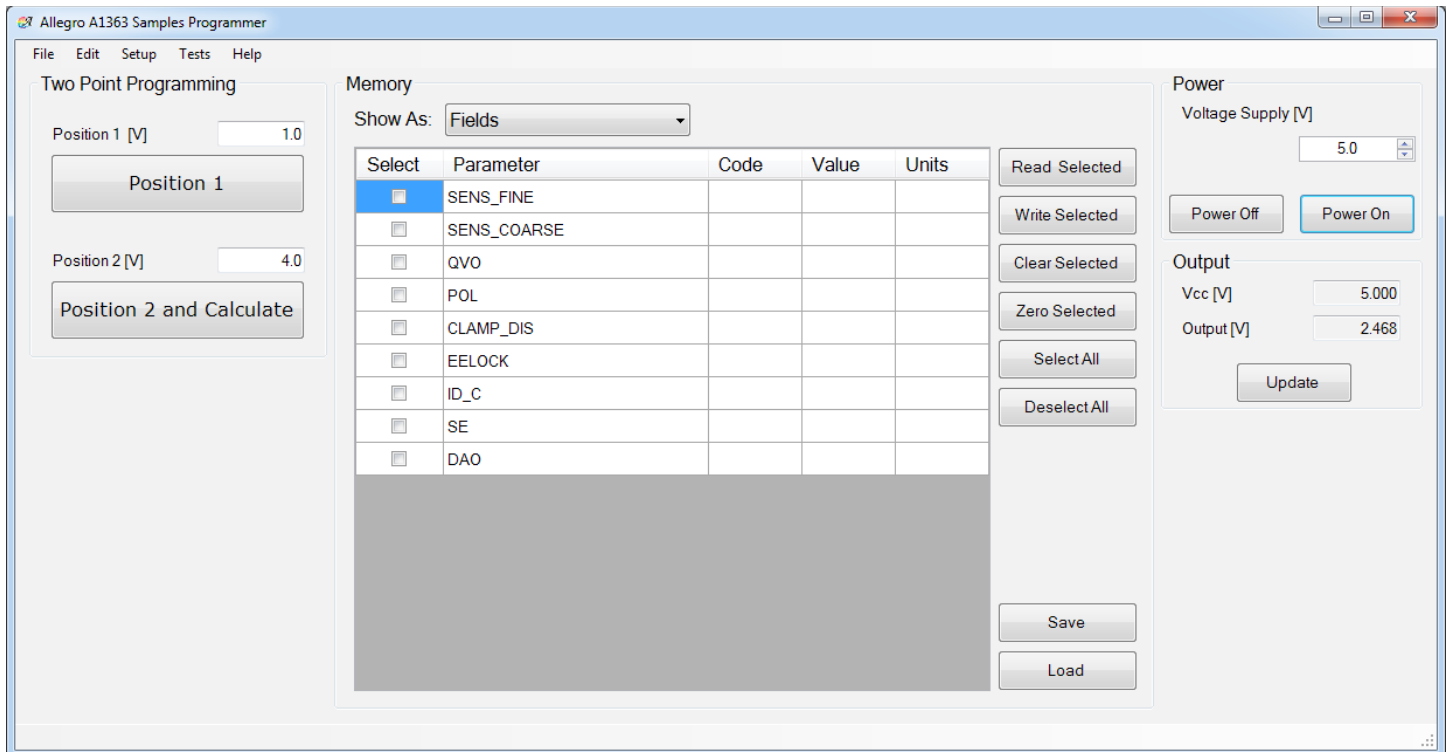

Figure 9: Power On State
2. On the main window of the Allegro A1363 Samples Programmer, click **Power On**. The Vcc [V] and Output [V] fields should be populated, as shown in Figure 9.